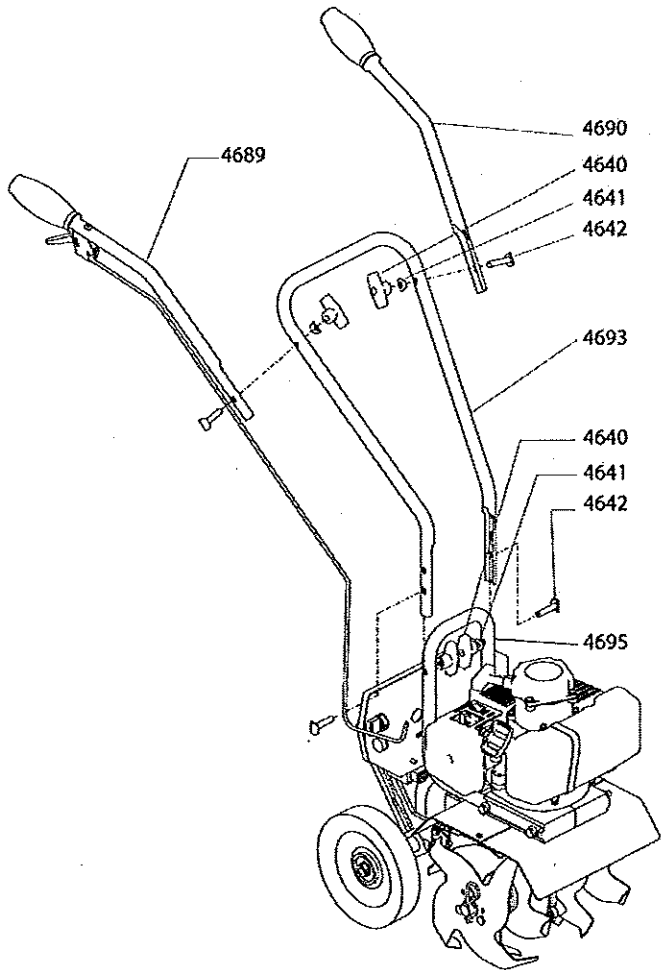

Figure 1
2. Using two tee handle nuts (4640), two bolts (4642), and two curved washers (4641), assemble the middle handlebar (4693) to the lower handlebar (4695) that is already attached to the mini-cultivator assembly. **SEE FIGURE 1**. The middle handlebar can be installed in two positions one high and one low. **DO NOT** overtighten the tee handle nuts.
3. Attach the upper right and left handlebars (4689 & 4690) to the middle handlebar using the two remaining tee handle nuts, bolts, and curved washers. **SEE FIGURE 1**. **DO NOT** overtighten the tee handle nuts.